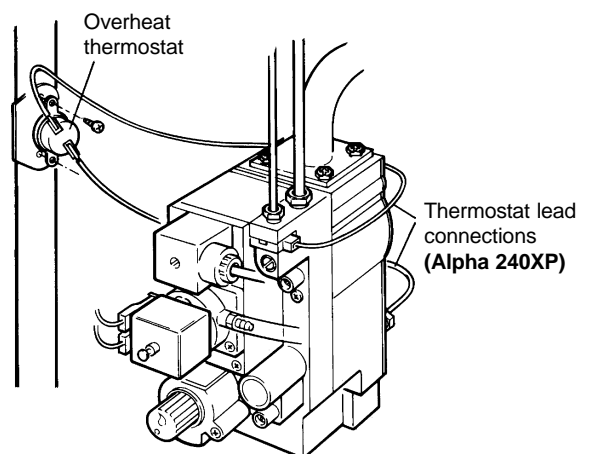

Fig. 23
8.11 OVERHEAT THERMOSTAT - Fig. 23